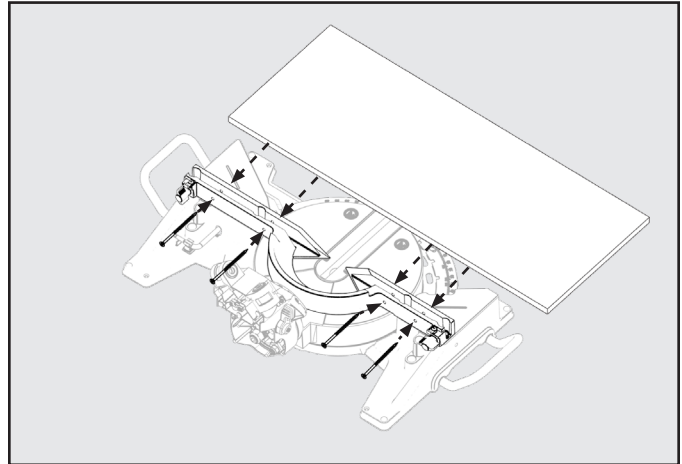

Figure 40
**NOTE:** The Auxiliary Table Board should be as wide as the lower (fixed) fence and secured to the lower fence using wood screws, see Figure 40.